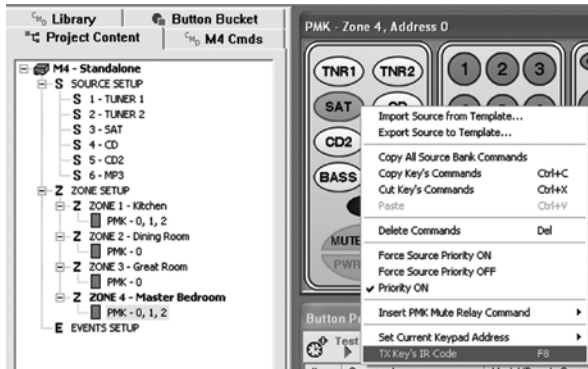

Figure 23 Transmitting Key's IR-Code to Learning Remote
- In Proficient Editor, left-click the desired key (in this case the Source key SAT) and **press F8** (or right-click then left-click “TX Key’s IR Code” on pop-up). This will transmit the SAT key’s IR Code to the learning remote. Refer to Figure 23.